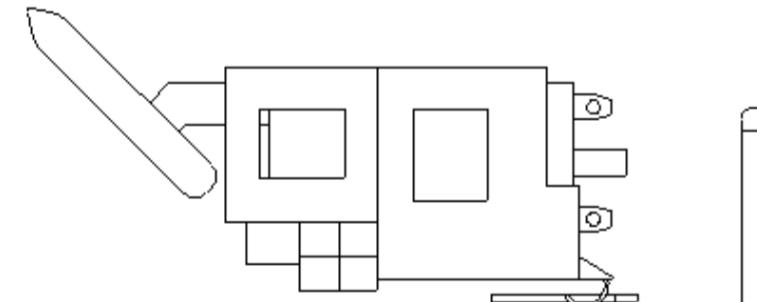
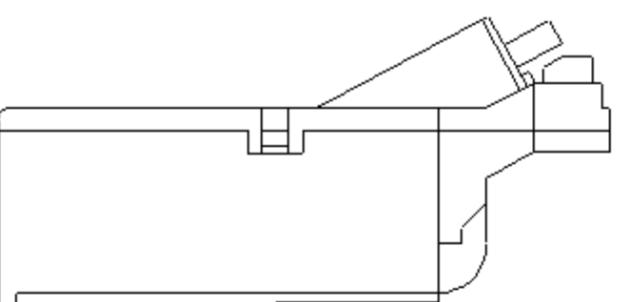

Figure 1
Figure 2
3. If your pump and bracket looks like Figure 1, continue with Step 4. If your pump and module looks like Figure 2, go to Step 20.